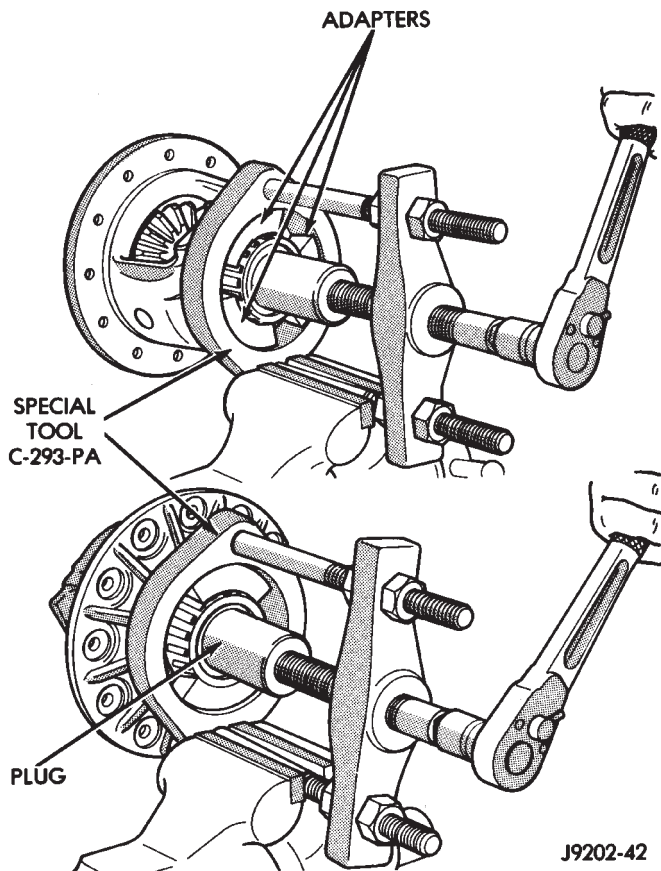

Fig. 27 Differential Bearing Removal
(1) Remove the bearings from the differential case with Press C-293-PA, Plug C-293-3, Adapter C-293-39 (Fig. 27).